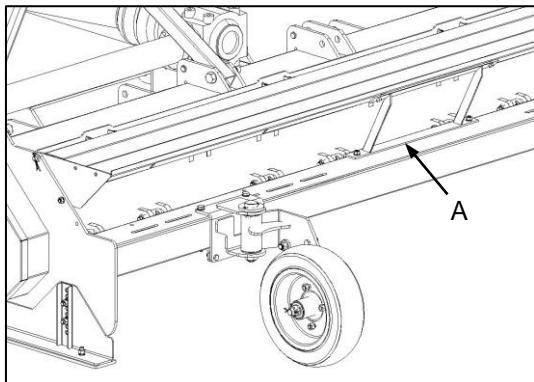

Fig. 1
➤ Discharge mode (Fig. 1)
- ✓ Discharge chute in the open position (Fig. 1), allowing material to be discharged to the rear immediately after having been cut.
- When using the implement in this mode, the discharge chute support bracket (Fig. 1-A) MUST be in place. Failure to observe this requirement will result in structural and mechanical failure not covered under warranty.
➤ Ontladingmodus (Fig. 1)
- ✓ Afvoergeut in die oop posisie (Fig. 1), sodat gesnyde materiaal onmiddellik na agter ontlai kan word.
- Wanneer die implement in hierdie modus gebruik word, MOET die afvoergeutsteunstuk (Fig. 1-A) in posisie wees. Versuim om aan hierdie vereiste te voldoen sal tot strukturele en meganiese onklaarraking lei wat nie onder waarborg gedeck word nie.
- ✓ Install the central chute support bracket (Fig. 1-A).
- ✓ Installeer die middelste geutsteunstuk (Fig. 1-A).